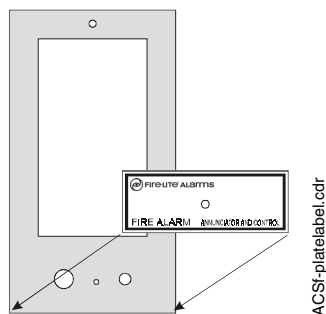

Figure 9 Applying the Label
1. Remove the backing from the gummed label and affix to the trim plate as illustrated in Figure 9 on page 29.